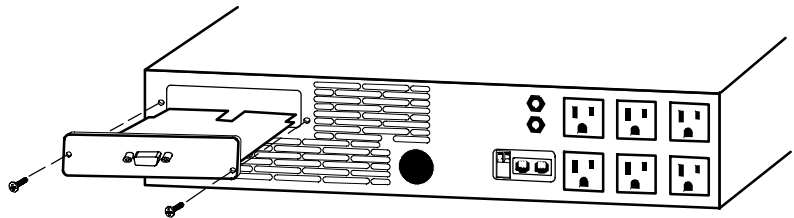

Figure 21. Removing the Single-Port Module
1. Remove the single-port module on the UPS rear panel. Retain the screws (see Figure 21).